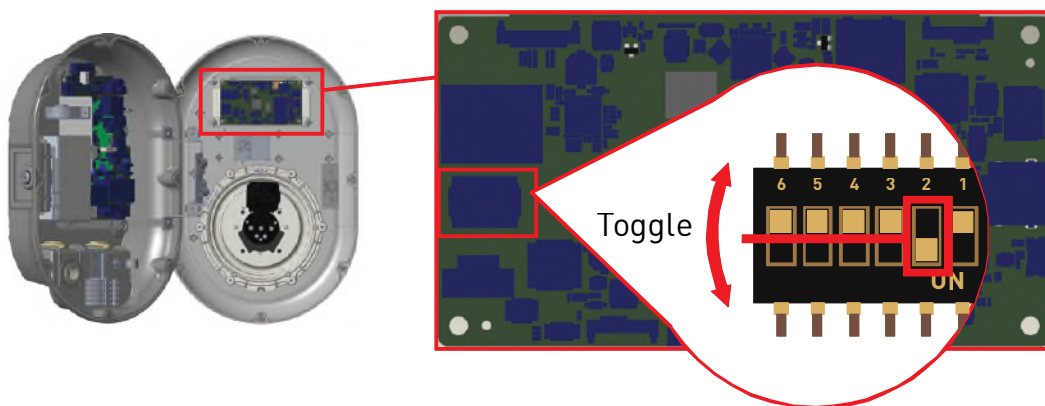

Figure.24
- Toggle the second position of dip switch which is on the smart card of the charger shown in figure 24. After that please turn on the charger again.